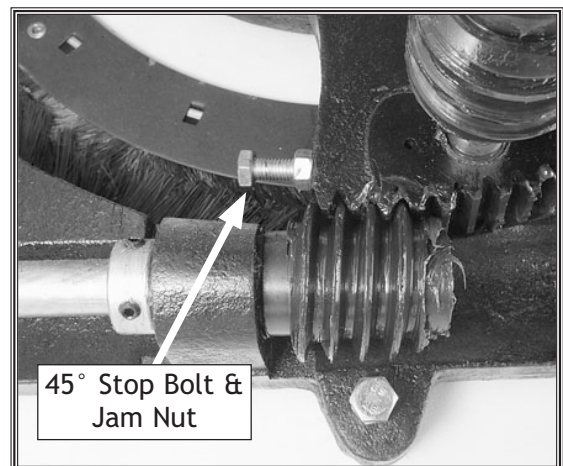

Figure 97. 45° stop bolt and jam nut.
5. Loosen the jam nut on the 45° stop bolt (see **Figure 97**) with a 13mm wrench, adjust the stop bolt up or down according to how far off the blade was from 45°.